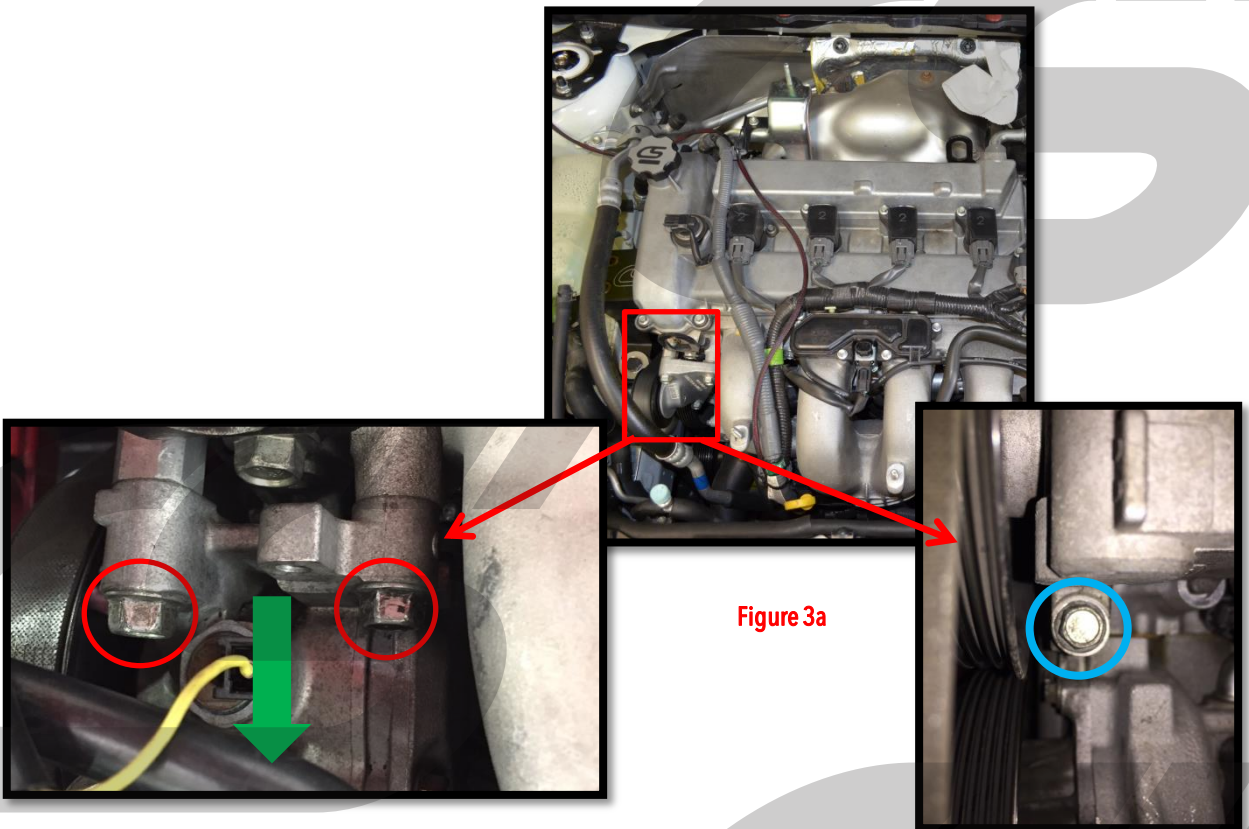

Figure 3a
- a) **Partially remove the power steering pump.** Remove the two upper bolts **circled in red** in **Figure 3a** using a 12mm wrench. Then loosen the lower bolt with a 12mm socket and ratchet **but do not remove it.** Lower bolt shown **circled in blue** in **Figure 3a**.
- b) **Pull the power steering pump in the direction of the green arrow in Figure 3a.** It will rotate away from the intake manifold giving you access to the leftmost intake manifold bolt.